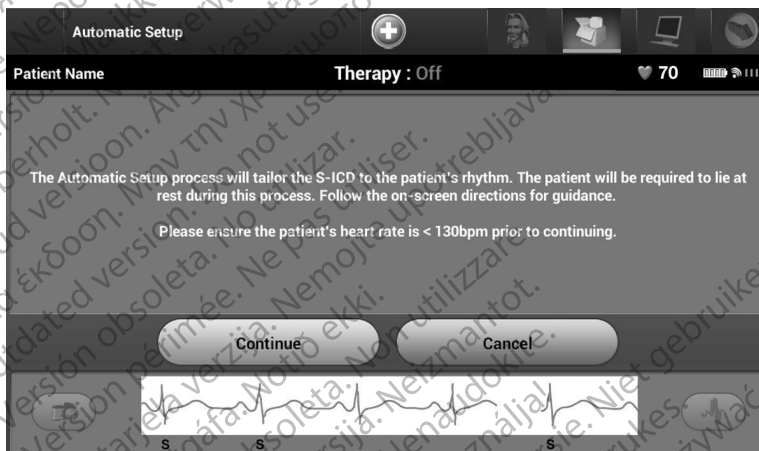

Figure 12: Automatic Setup screen
3. Select the Automatic Setup icon in the Navigation Bar. The Automatic Setup screen appears (Figure 12).
4. Select Continue if the patient's heart rate is less than 130 bpm (Figure 12). For rates greater than 130 bpm, select the Cancel button and refer to the **Manual Setup** section on page 64.